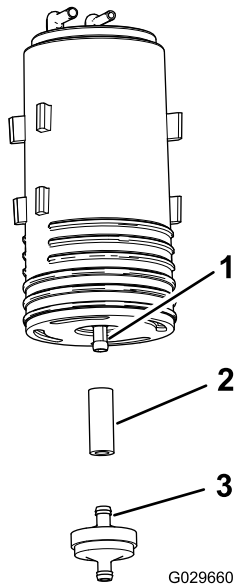

Figure 51
4. Remove the carbon-canister filter and the short section of hose from the lower fitting of the old carbon canister (Figure 51).
5. Install the hose onto the lower fitting of the new carbon canister (Figure 51).
6. Insert the fitting of a new carbon-canister filter into the hose (Figure 51).